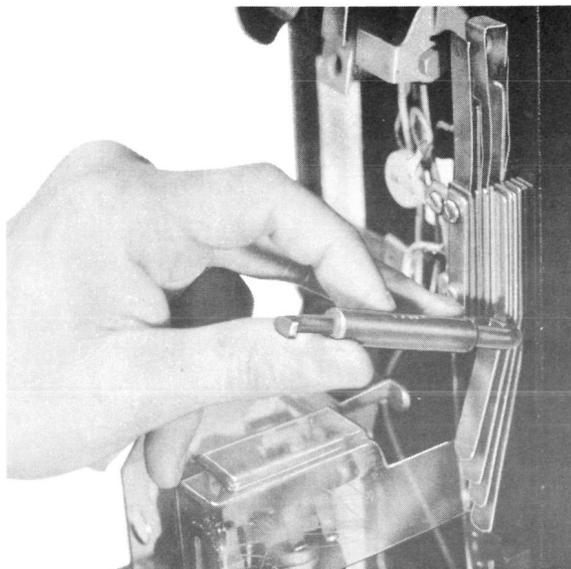

Fig. 26 — Adjustment of Housing Contact Springs
- Use a 466A tool to adjust housing contact and equalizing springs to have approximately 1/4-inch follow (Fig. 26).